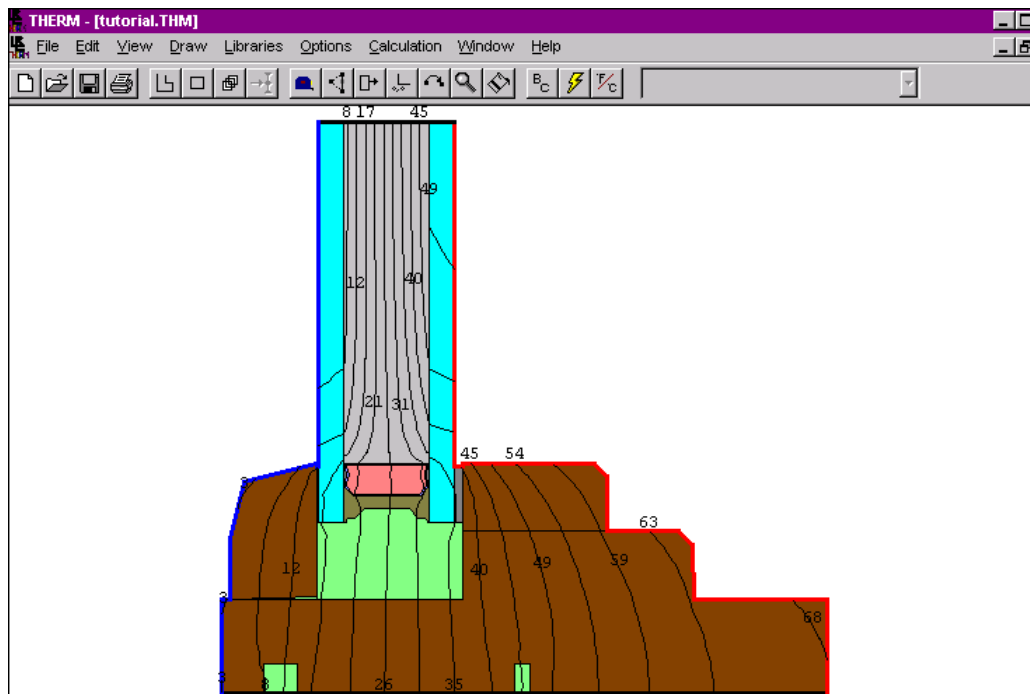

Figure 8-51. When the calculation has finished, the program will display the results as isotherms.
- When the simulation is finished, the default isotherm results will be drawn on the cross section, as shown in Figure 8-51.